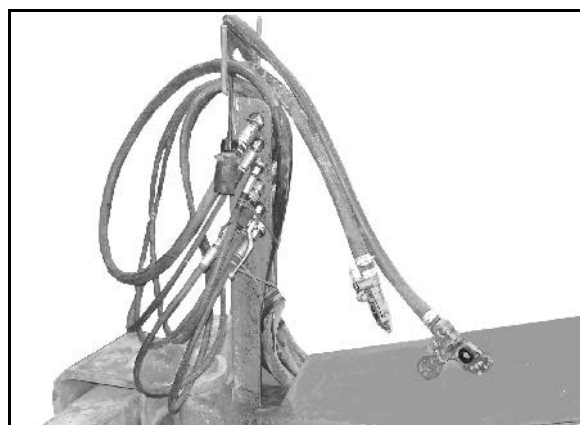

Fig. 14
3. Attach the hydraulic plugs to the parking couplings (Fig. 14).